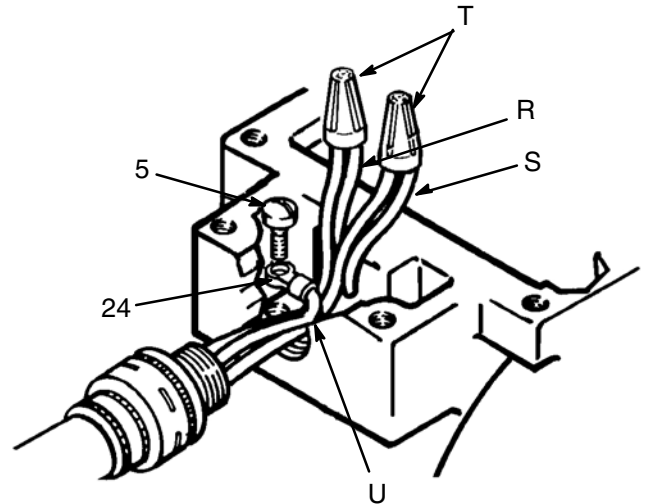

Fig. 3
Remove the heater cover (20). Connect the electric wires of the circuit to the heater leads (R, S) with connectors (T). Crimp the terminal (24) onto the ground wire (U) of the circuit and connect to the heater ground connection screw (5). See Fig. 3.